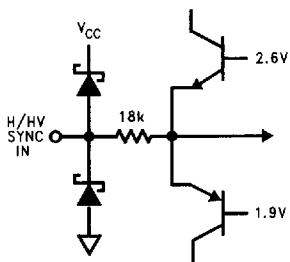

FIGURE 8
**Pin 12 - H/HV SYNC IN:** This pin accepts AC-coupled H or composite sync of either polarity. For best noise immunity, a resistor of 2 k $\Omega$  or less should be connected from the input side of the coupling cap to ground. See *Figure 8* for the input schematic.